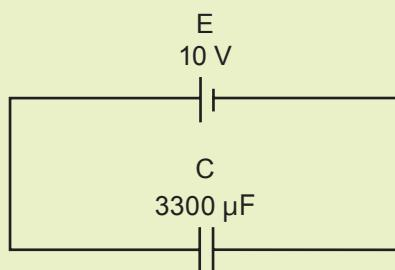

Figure 6.6
3. A $3300 \mu\text{F}$ capacitor is connected as shown in Figure 6.6.